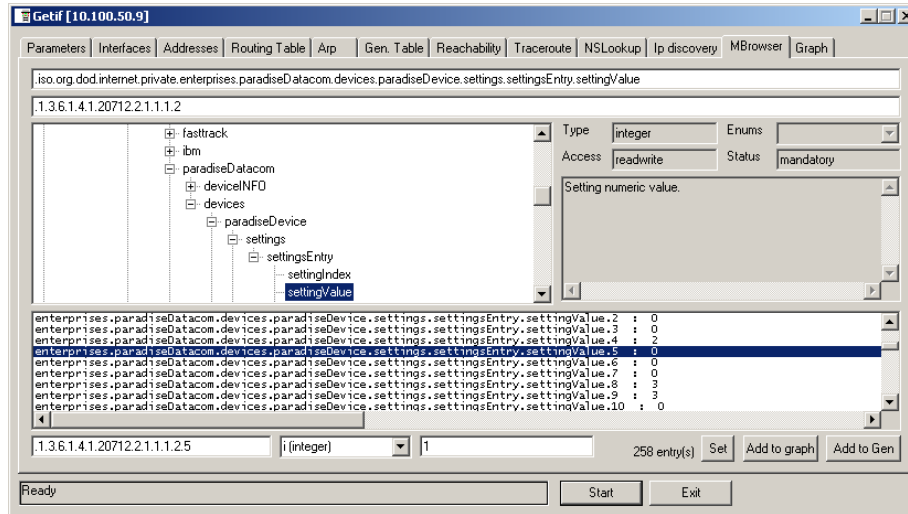

Figure 7-14: Getif MBrowser window, setting settingValue.5 to a value of ‘1’
8. Observe the Mute state on the SSPA change to a “Mute On” state. See **Figure 7-14**.